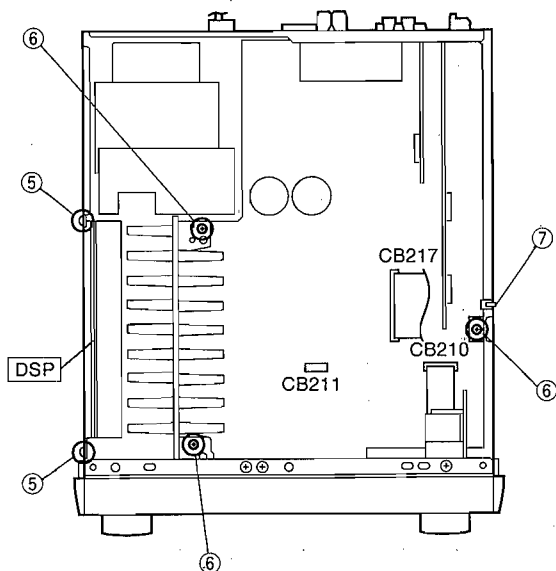

Fig. 2
- a. Remove 3 screws (6) fixing the P.C.B. Main in Fig. 2.
- b. Remove 1 wire tie (7) in Fig. 2.
- a. Remove 2 screws (5) in Fig. 2.